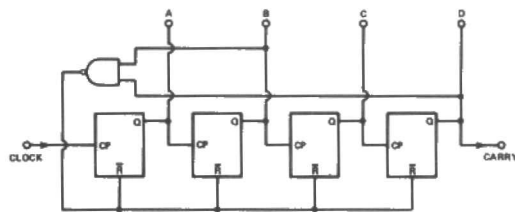

Figure 5. By resetting a binary counter to zero on the tenth count, a decimal counter can be implemented.
The counter described above will count to 15 and then start again at zero. Suppose we want to make a decimal counter which resets to zero on the tenth clock pulse. At this instant the counter will read ten (1010 in binary) so outputs B and D will be HIGH. (Remember, the outputs appear to be the wrong way round in the diagram). Adding a NAND gate between the common reset line (R) and the B and D outputs as shown in Fig 5 achieves the desired result. As soon as these outputs go HIGH, the reset line goes LOW resetting all the flip-flops back to zero. In most applications, the brief '10' output does not matter. If you want to make a multi-digit counter, the last digit of one 4-bit counter can be used to clock the next one.